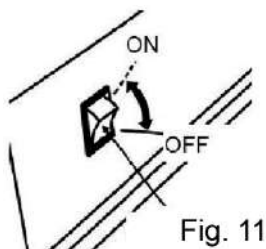
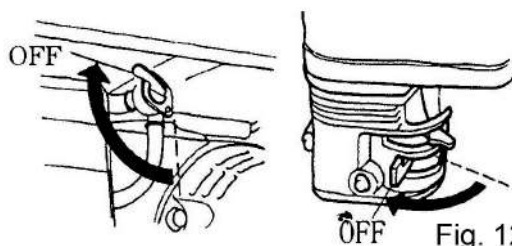

Fig. 11
Fig. 12
**Under Normal Condition.** Turn off the AC breaker and unplug all the loads. Run the unit for several minutes without load to cool down the generator set. Set the ignition switch to OFF position (Fig. 11). Set the fuel switch to OFF position (Fig. 12)